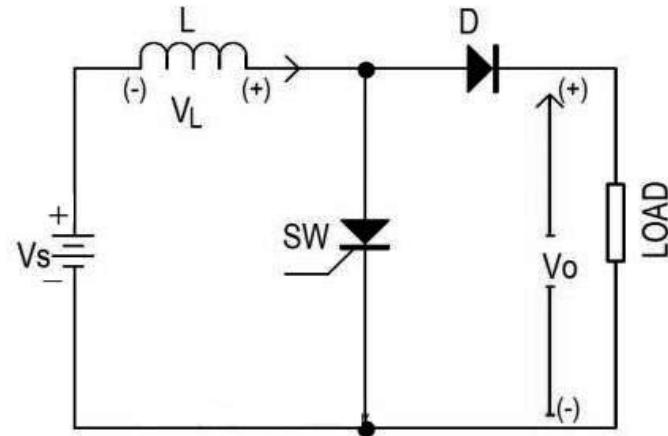

Fig. 10.2 Step up chopper
1. Make the circuit connection as per the circuit diagram shown in Fig. 10.2.